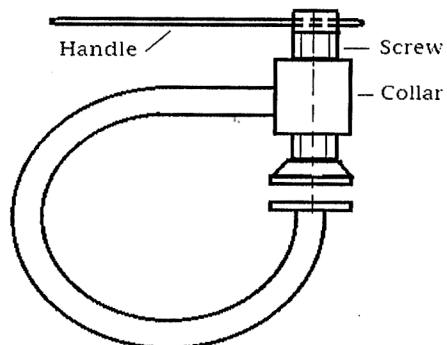

Fig. Q3a
3. (a) The Fig. Q3a shows a workshop-based C-clamp with single start thread of the specification Sq 22 x 5. The following details are known: (i) μ at thread & collar = 0.15, (ii) mean radius of friction collar = 15 mm, (v) capacity of the clamp = 750 N, (vi) for material of handle $S_{yt} = 400$ N/mm². If the operator's capacity is to exert a force of 20 N on the handle, determine: